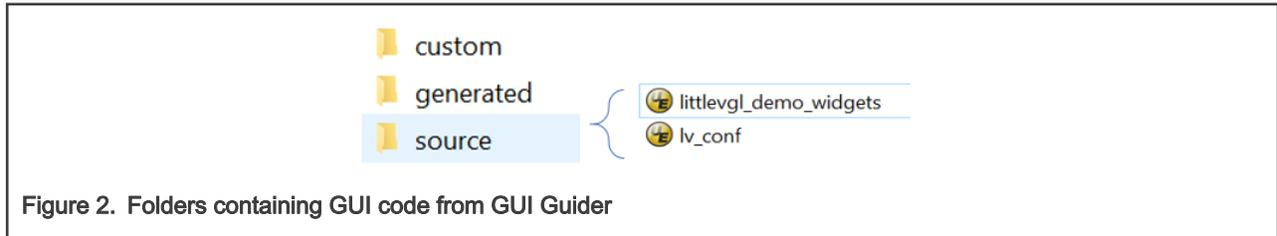

Figure 2. Folders containing GUI code from GUI Guider
2. Generate GUI code: Develop the GUI in GUI Guider. The GUI code is provided in three subfolders under `export` folder when they are generated and exported, see Figure 2. The code files in the 3 folders except for the file `littlevgl_demo_widgets` in `source` folder must be added into the KEIL project.